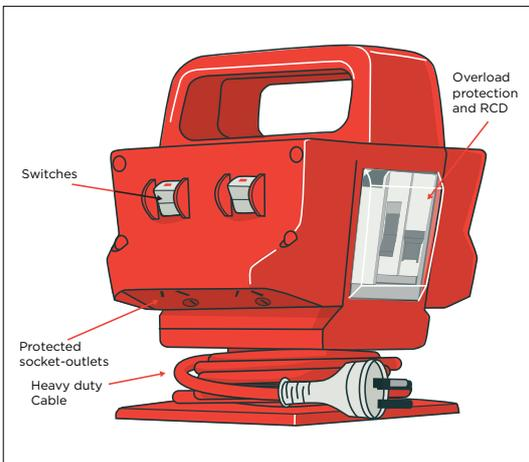

Figure 3: PSOA designed for harsh conditions
- Some are built into PSOAs (see Figure 3).